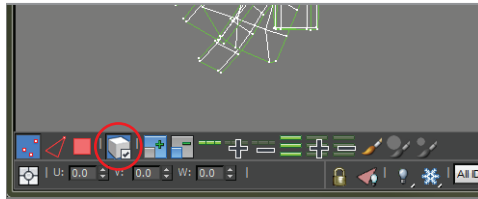

FIGURE 11.26 Click Select By Element UV Toggle.
1. Click Select By Element UV Toggle, as shown in Figure 11.26.